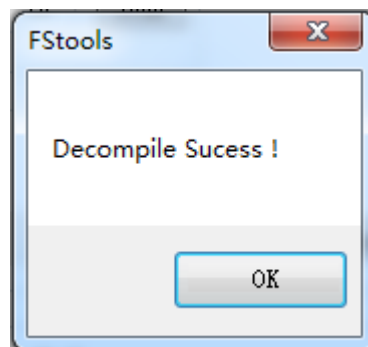

Fig. 19
③ After the “Decompile Success!” dialog box appears, click “OK” to complete the decompiling, as shown in Fig. 19.